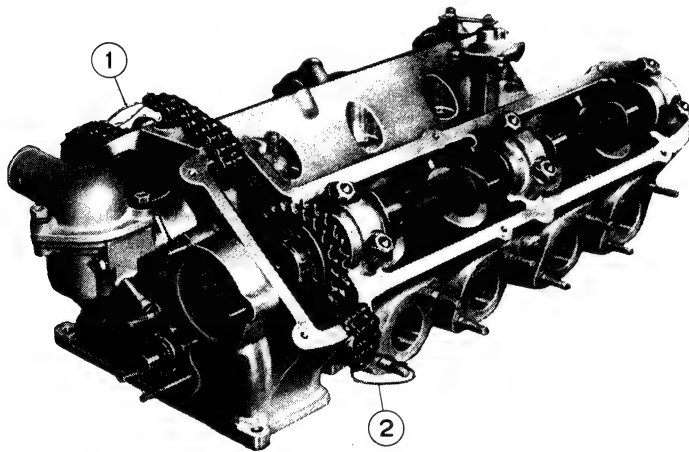

Fig. 63. - Timing chain opened for tappet clearance adjustment (engine 118 B.000).
- Take off the link retainer, remove the link and secure chain free ends with two pieces of wire (fig. 63) so that chain cannot fall into the timing gear case.